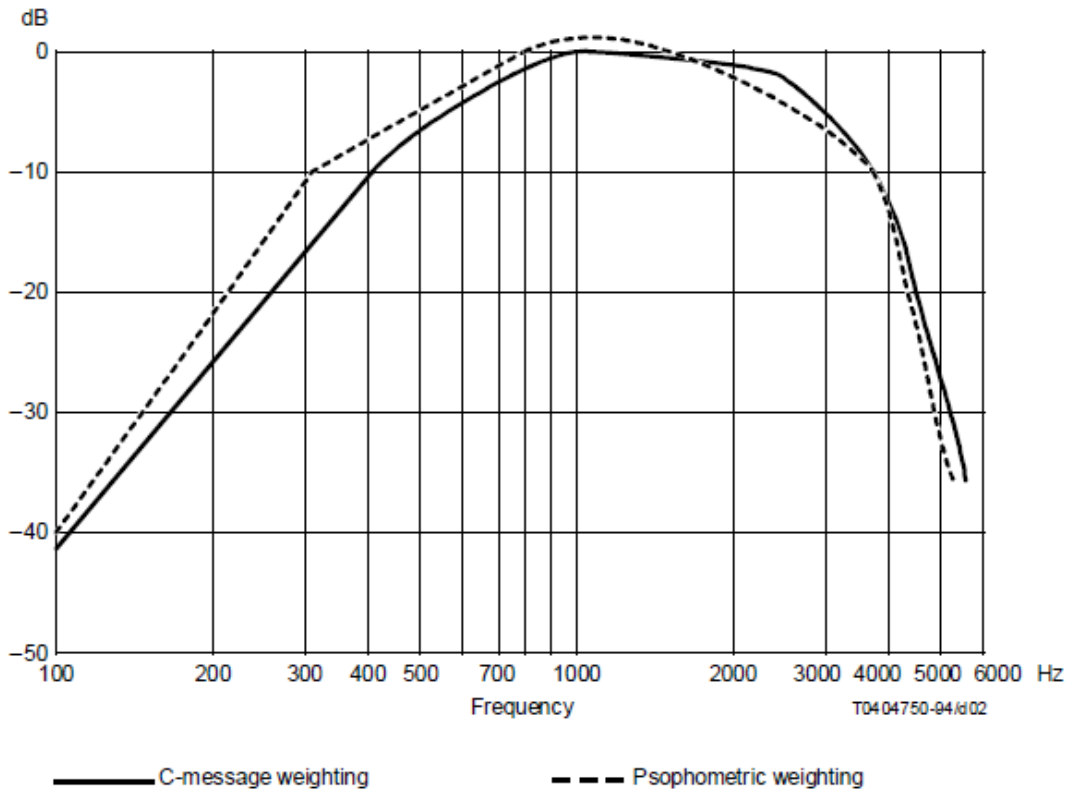

Fig. 7.103: Adding Auto and Cross-correlation
Clicking on “+” in the channel list opens the window for selecting the different math functions. Under the basic math functions there is the option to add a correlation (see Fig. 7.103 ). It is possible to choose between an Auto or a Cross-correlation. Then press the “Add” button in the bottom right corner of the window and a new correlation channel will automatically be added to the channel list under the specified group name (see ③ in Fig. 7.103).
The Auto-correlation (see ① in Fig. 7.103) mathematically describes the convolution of a signal with itself and is used to detect periodicity in signals, e.g. in modulated and noisy signals.
The Cross-correlation (see ② in Fig. 7.103) mathematically describes the convolution of a signal  $x$  with another signal  $y$ . The Cross-correlation is used e.g. to detect identical components in 2 different signals or to analyze the delay time between 2 signals.